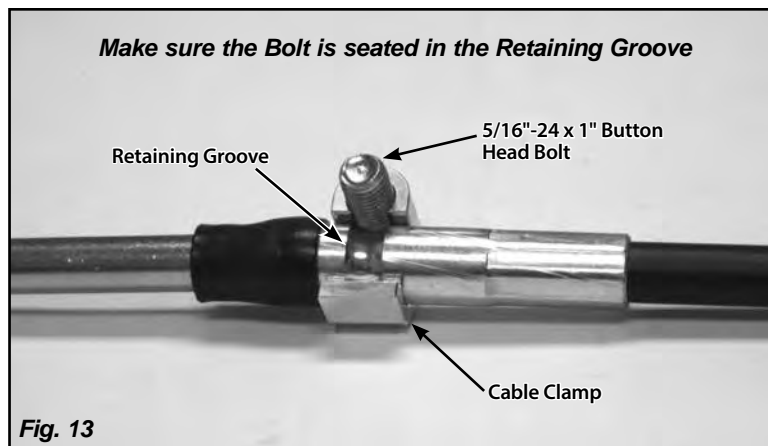

Fig. 13
Step 13: (continued) Determine how the cable clamp should be oriented on the upper cable mounting bracket and which bolt hole should be used for the best alignment with the quad arm. The cable clamp can be installed with the bolt above or below the cable. Insert the 5/16"-24 x 1" button head bolt into the cable clamp, and position the cable clamp on the cable, making sure that the bolt is seated in the retaining groove. **Fig. 13**